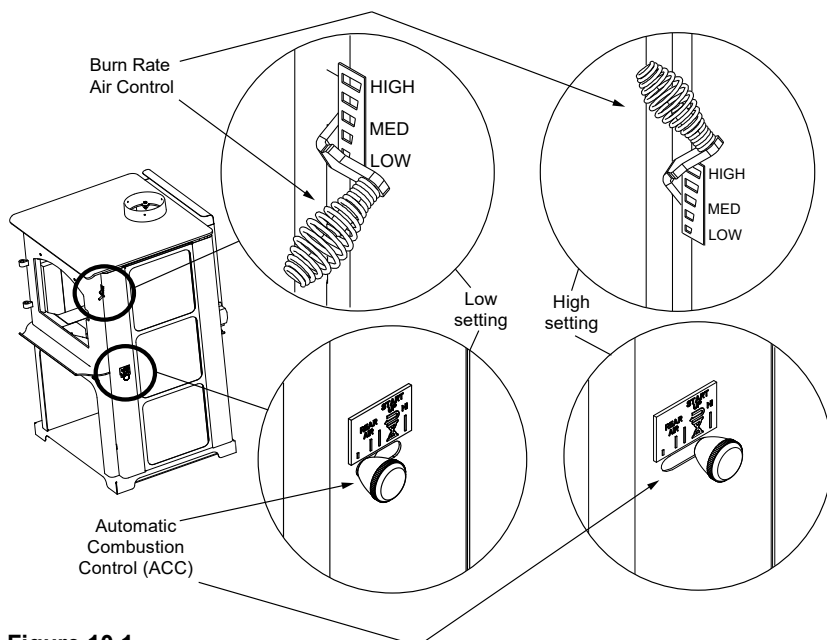

Figure 10.1
The next stage of burning, the secondary stage, is the period when the wood gives off flammable gases which burn above the fuel with bright flames. During this stage of burning it is very important that the flames be maintained and not allowed to go out. This will ensure the cleanest possible fire. If the flames tend to go out, it is set too low for your burning conditions. The air control located at the upper right hand corner is used to adjust for burn rates. This is called the Burn Rate Air Control (Figure 10.1).
This air supply enters at the upper front of the firebox, near the top of the glass door. This preheated air supplies the necessary fresh oxygen to mix with the unburned gases, helping to create second, third and fourth combustions. This air is regulated by the Burn Rate Air Control. When the control is moved all the way up it is on the High setting and when moved all the way down it is on the Low setting (Figure 10.1).
- Then activate the ACC timer system by pushing the knob all the way back toward the appliance to "HI" then pull forwards towards the front of the appliance until the knob stops (**Figure 10.1 on page 10**).